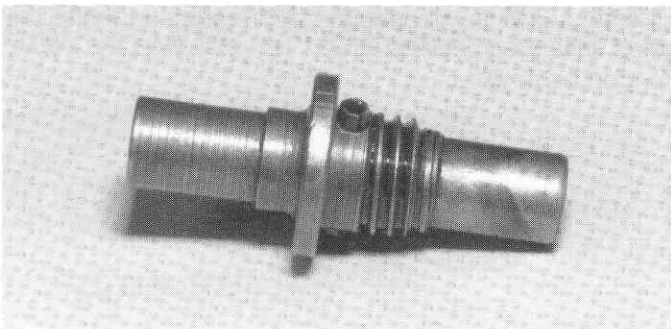

Fig. 28
□ **Fig. 28** Tap the pin into the hole until it's evenly centered on both sides.